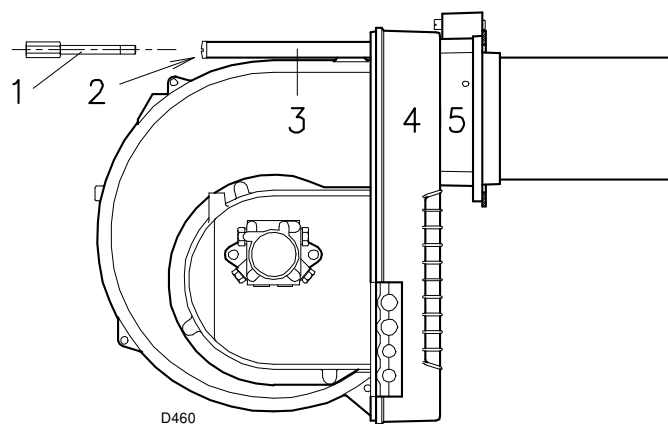

Fig. 13
- Finally remount the burner 4)(Fig. 13) to the slide bars 3) and slide it up to the flange 5);